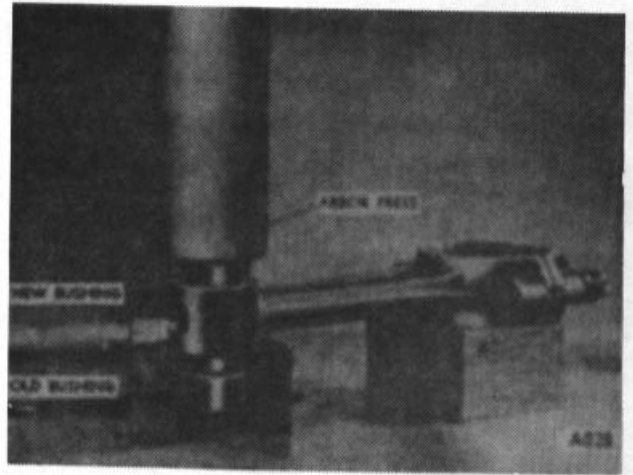

Figure 27.
2. The piston pin hole in the piston and the bushing in the connecting rod maybe honed to increase their diameter to obtain the desired fit. Replace the bushing in the connecting rod, if new pistons are used. Using an arbor press, press out the old bushing and press in the new one. (Fig. 27) Then the bushing must be honed to obtain the correct fit of the pin in the bushing.